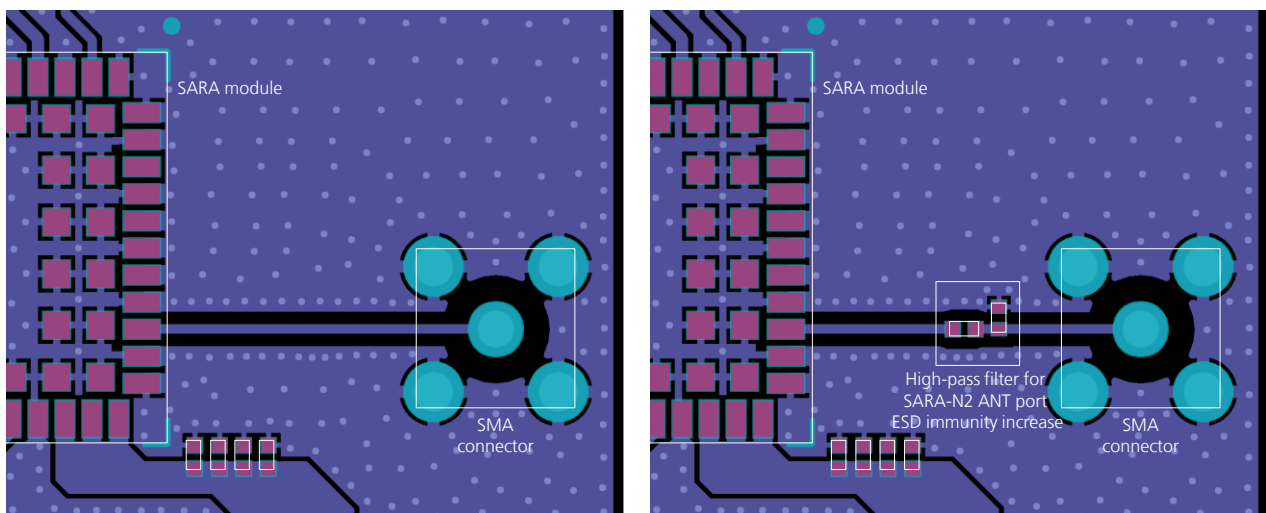

Figure 17: Suggested circuit and layout for antenna RF circuit on application board, if antenna detection is not required
- Add GND vias around transmission line, as described in Figure 17.
- Ensure solid metal connection of the adjacent metal layer on the PCB stack-up to main ground layer, providing enough on the adjacent metal layer, as described in Figure 17.
Two examples of proper RF circuit design are reported in the Figure 17, where the antenna detection circuit is not implemented (if the antenna detection function is required by the application, follow the guidelines for circuit and layout implementation reported in section 2.4.2):
- SMA Pin-Through-Hole connectors require GND keep-out (i.e. clearance, a void area) on all the layers around the central pin up to annular pads of the four GND posts, as shown in Figure 17.
If the antenna detection function is not required by the customer application, the **ANT\_DET** pin can be left not connected and the **ANT** pin can be directly connected to the antenna connector by means of a 50  $\Omega$  transmission line as described in Figure 17.